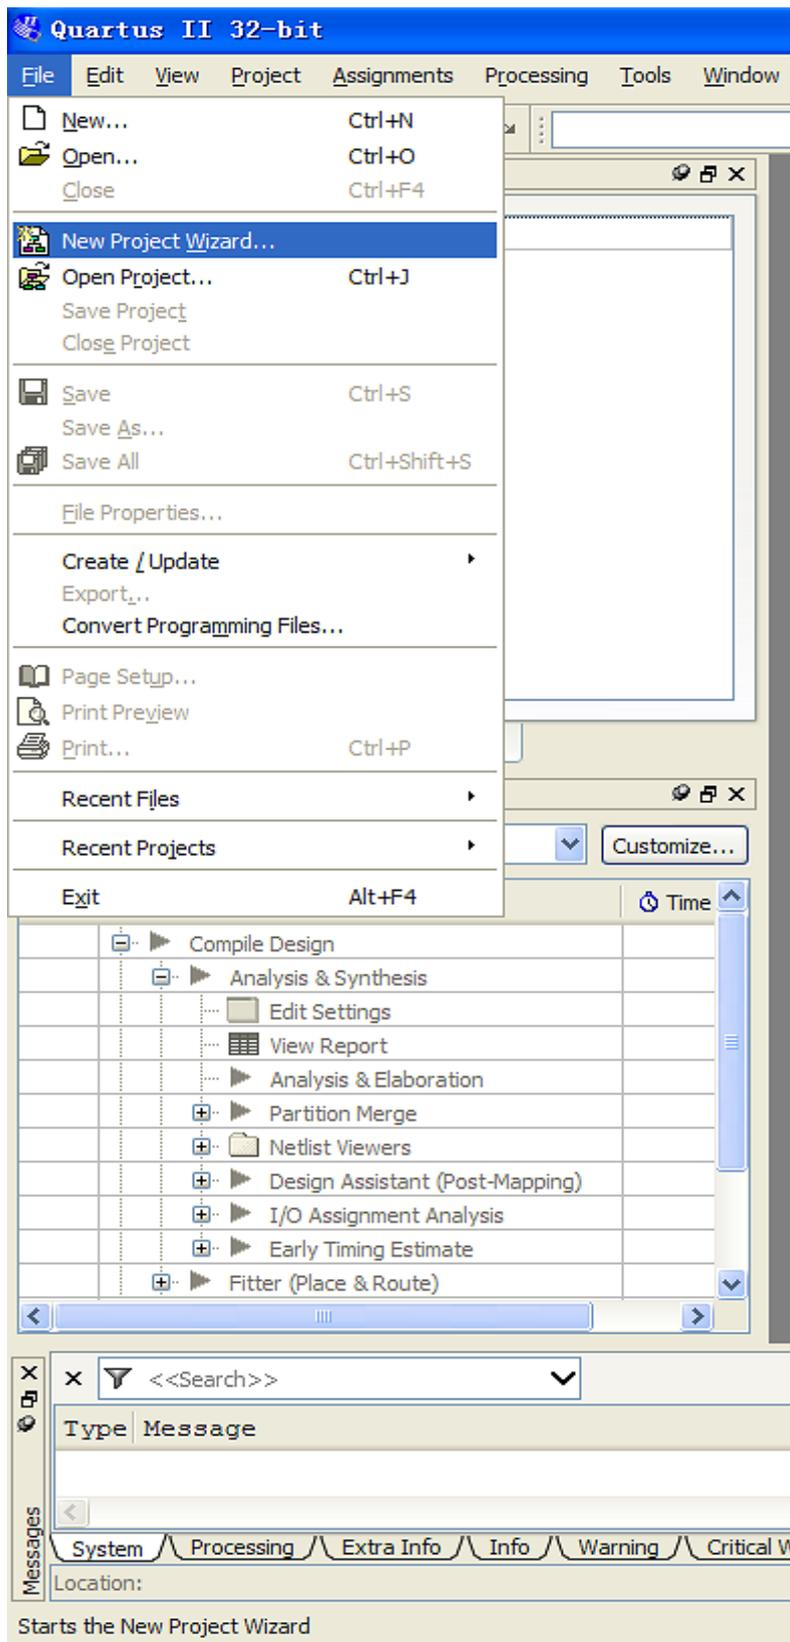
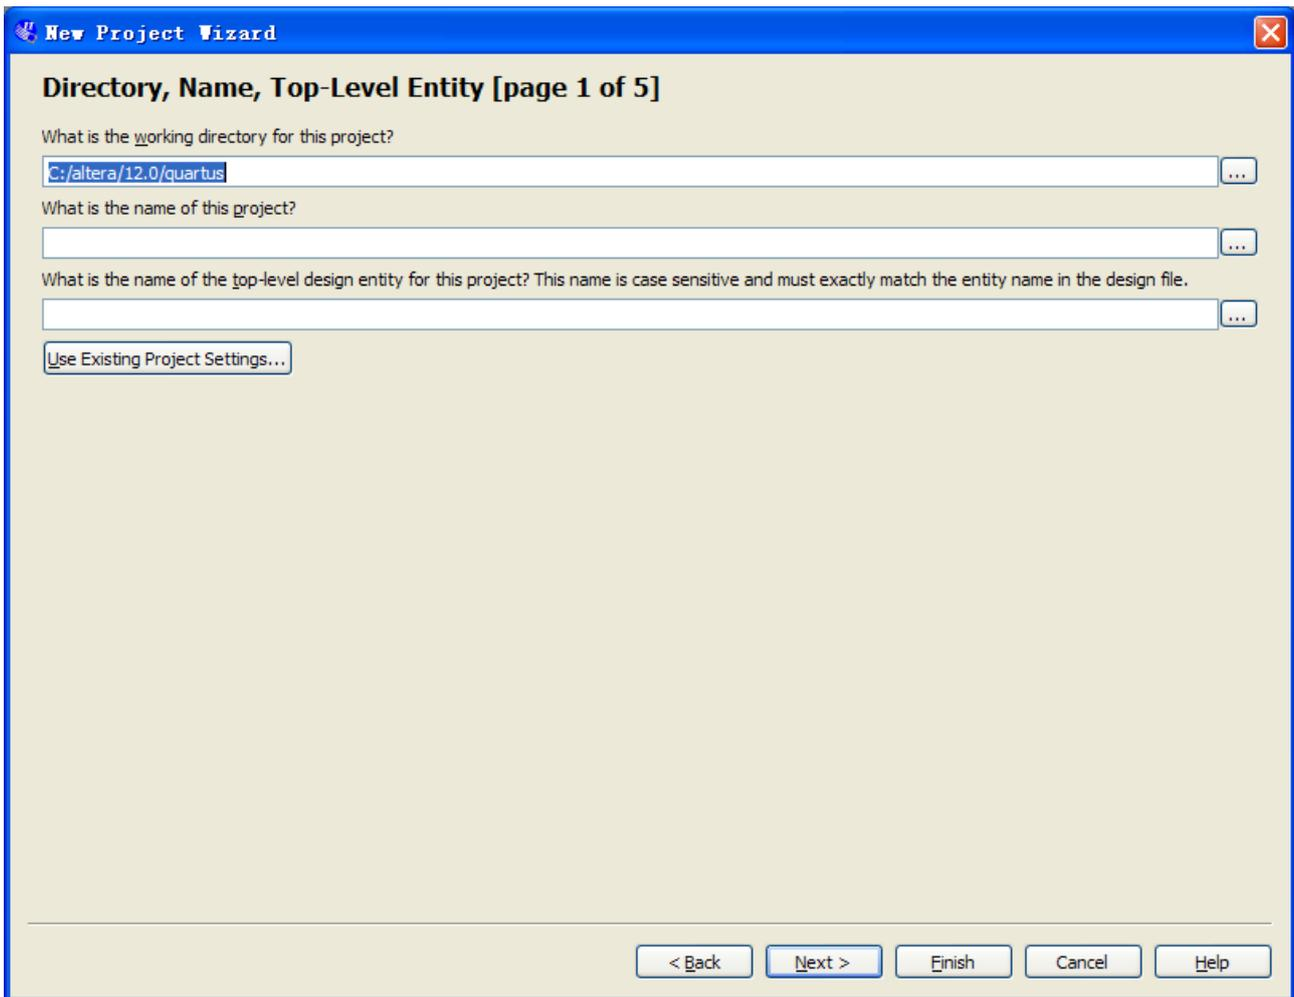

Figure 1-1 Start to Create a New Project
Figure 1-2 New Project Wizard
1. Launch Quartus II then select **File->New Project Wizard**, start to create a new project. See Figure 1-1 and Figure 1-2.